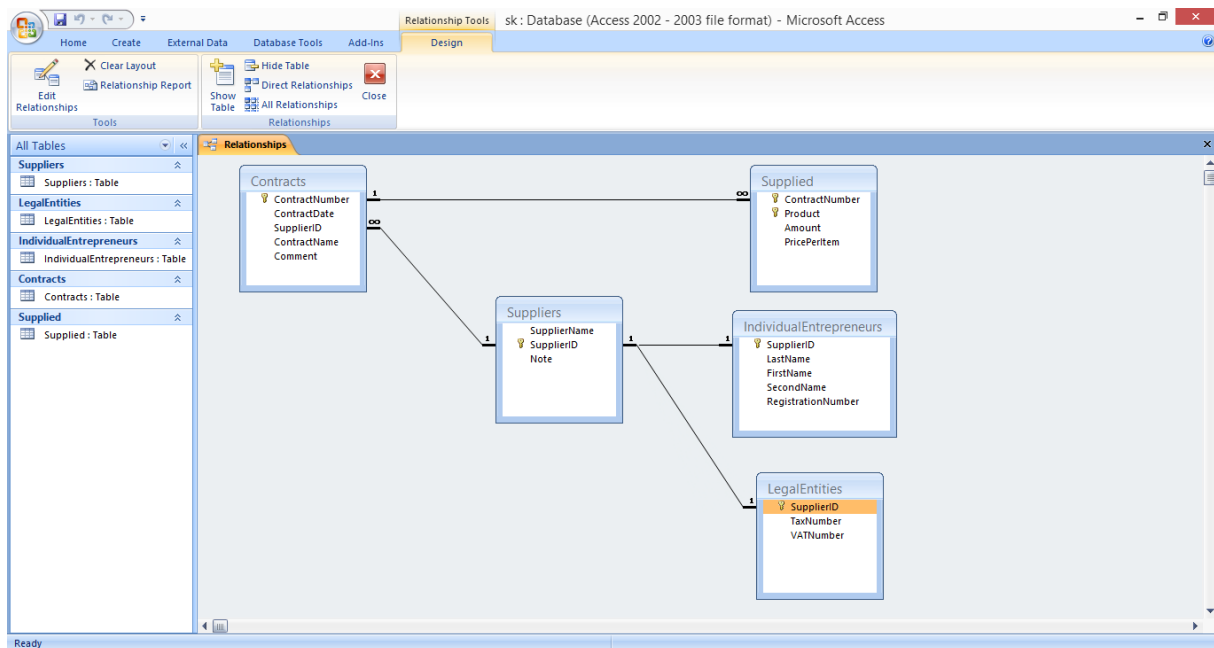

Figure 1.3
- 4) Drag the field “ContractNumber” of the table “Contracts” to the field “ContractNumber” of the table “Supplied”. As the result, relationship between tables will appear (figure 1.3);